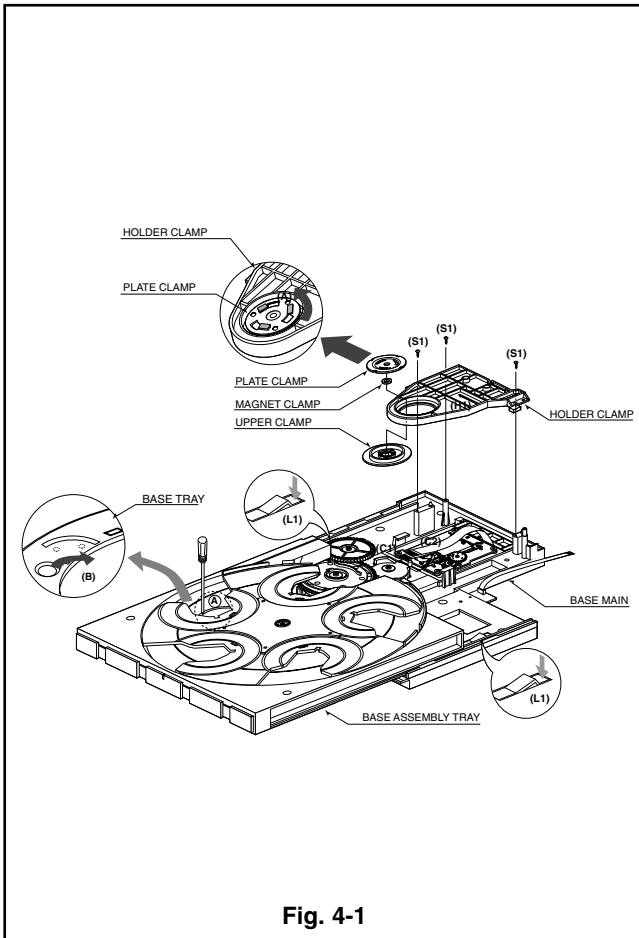

Fig. 4-1
1. Holder Assembly Clamp(Fig. 4-1)
2. Base Assembly Tray(Fig. 4-1)